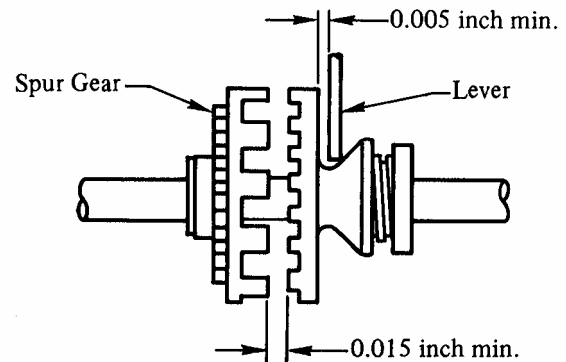

Figure 27. Clutch Lever Adjustment.
- Measure the clearances as shown in Figure 27.